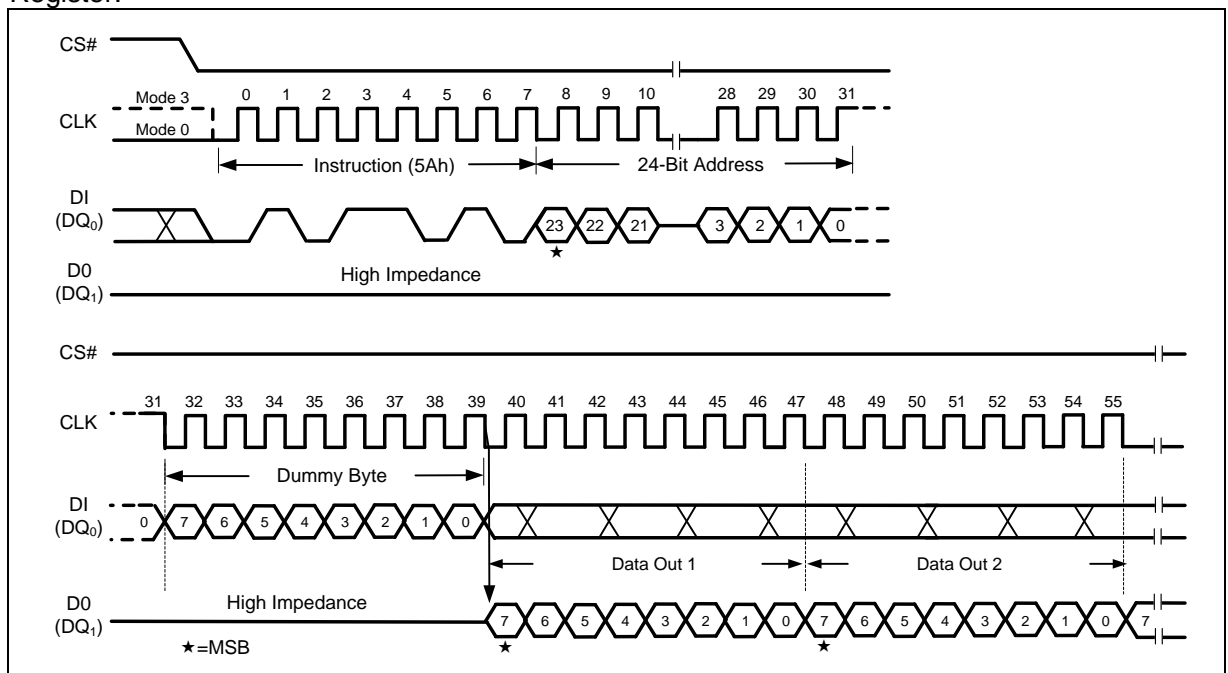

Figure 59 Read SFDP Register Instruction
The Read SFDP instruction is initiated by driving the /CS pin low and shifting the instruction code “5Ah” followed by a 24-bit address (A23-A0) (1) into the DI pin. Eight “dummy” clocks are also required before the SFDP register contents are shifted out on the falling edge of the 40th CLK with most significant bit (MSB) first as shown in Figure 59. For SFDP register values and descriptions, refer to the following SFDP Definition table.